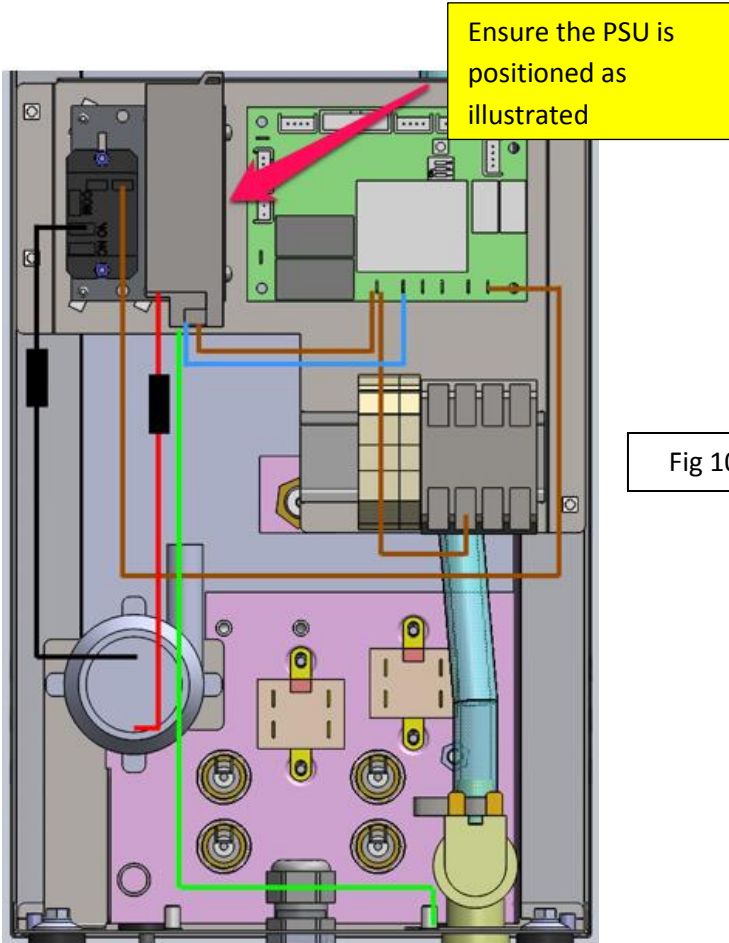

Fig 10
- Position the new PSU on the 6 pillar supports as per Fig 10. Note: **There is only one correct orientation so earth cable can reach base. See Fig 10 position and fit.**